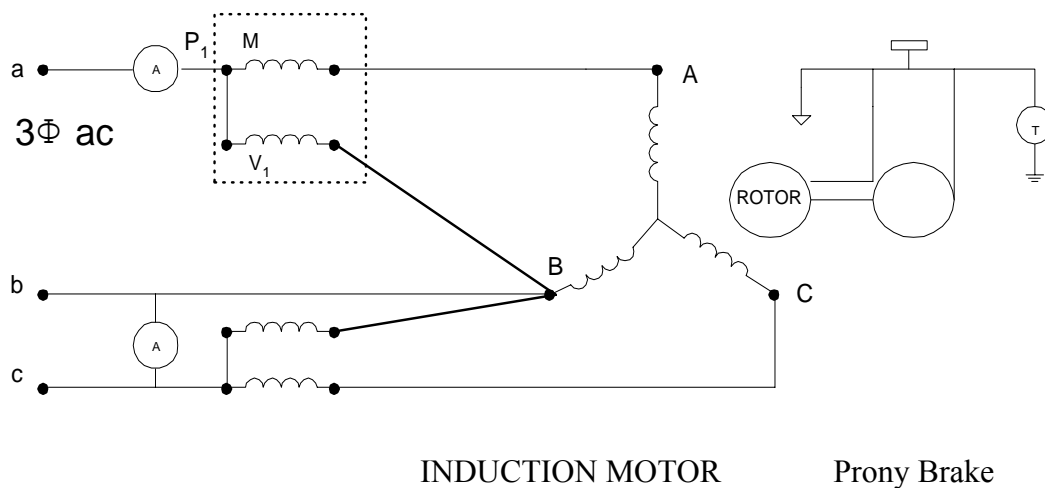

Fig.1: Connection of 3Φ Induction Motor
2. Couple the induction motor to the prony brake as shown in fig.1, adjust the prony brake belt so that it is not very tight.